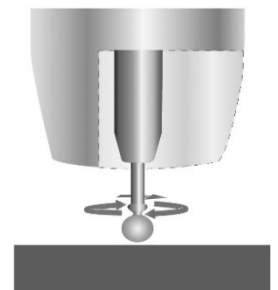

Fig. 30
3. The current flow creates a magnetic field that begins to pinch the melting wire forming it into droplet (Fig. 30).